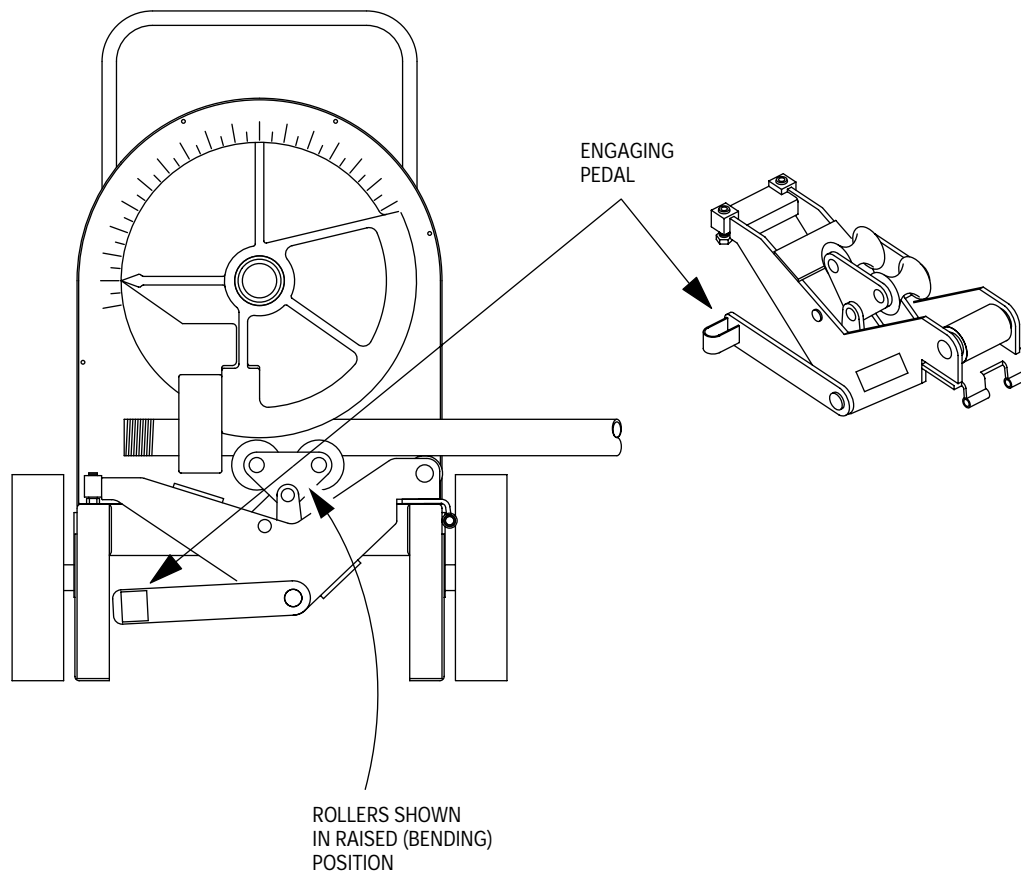

Figure 13
5. Step on the "Engaging Pedal" which will raise the rollers to come in contact with the conduit. See Figure 13. Be sure the correct rollers for the size conduit being bent are in position to engage the conduit.